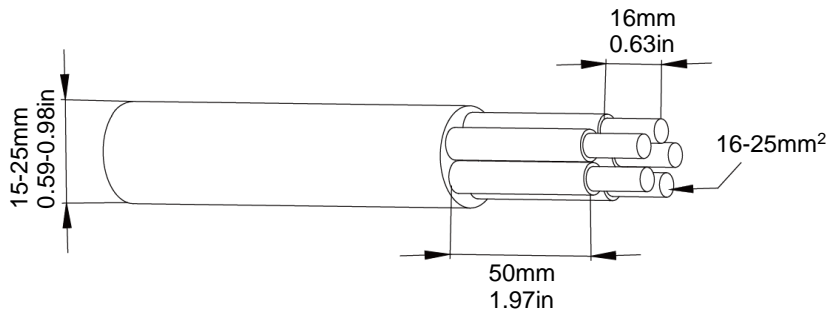

Figure 4-8 Recommended cable parameters
1. Strip off N/L1/L2/L3 cables as figure 4-8: